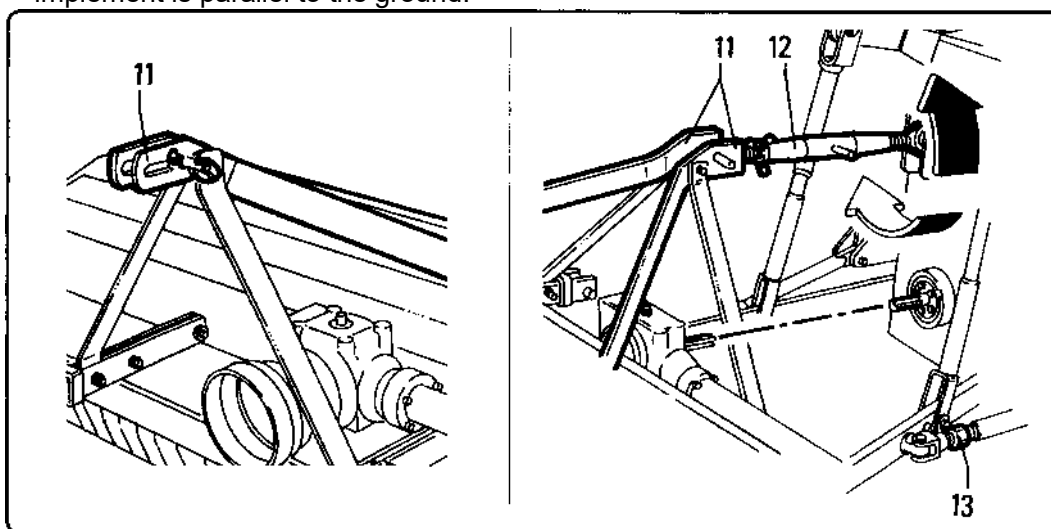

fig. 4.2.2
- Fix the upper rod “12” fig. 4.2.2 of the three –point hitch “11” and adjust it until the pto of the implement is parallel to the ground.